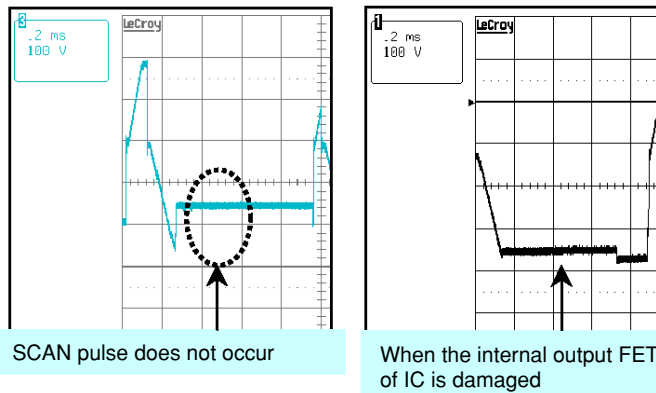

Fig. 5 When SCAN IC is poor
- Waveform : As shown in Fig. 5.